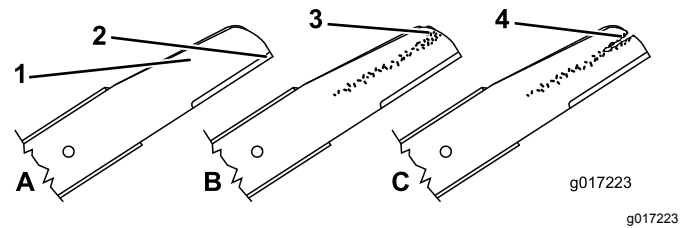

Figure 36
1. Inspect the cutting edges (Figure 36). If the edges are not sharp or have nicks, remove the blades and have them sharpened or replace them.
2. Inspect the blades themselves, especially the curved area (Figure 36). If you notice any damage, wear, or a slot forming in this area, immediately replace them with new blades.